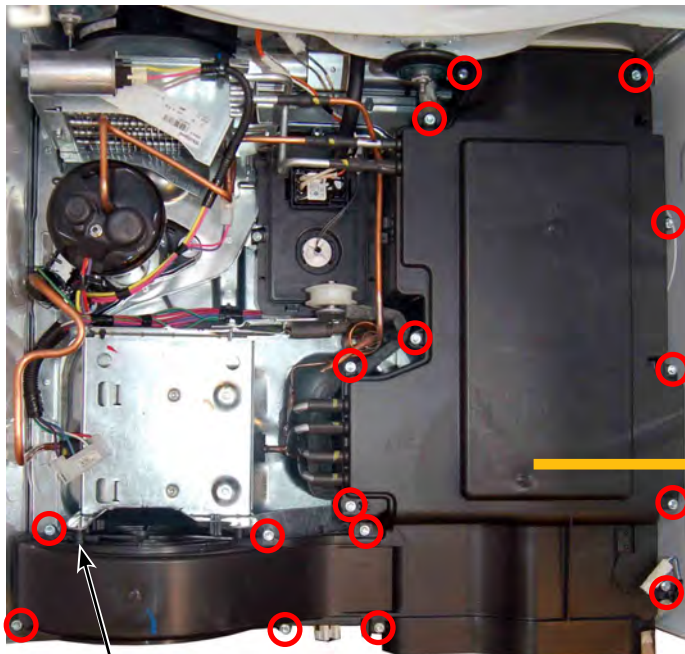

Figure 3 - Sealed System Base Assembly
9. Remove the sixteen (16) 1/4” hex-head screws securing the cover to the heat exchanger assembly (as illustrated in Figure 3). Remove the cover assembly, containing the reed lint switch.